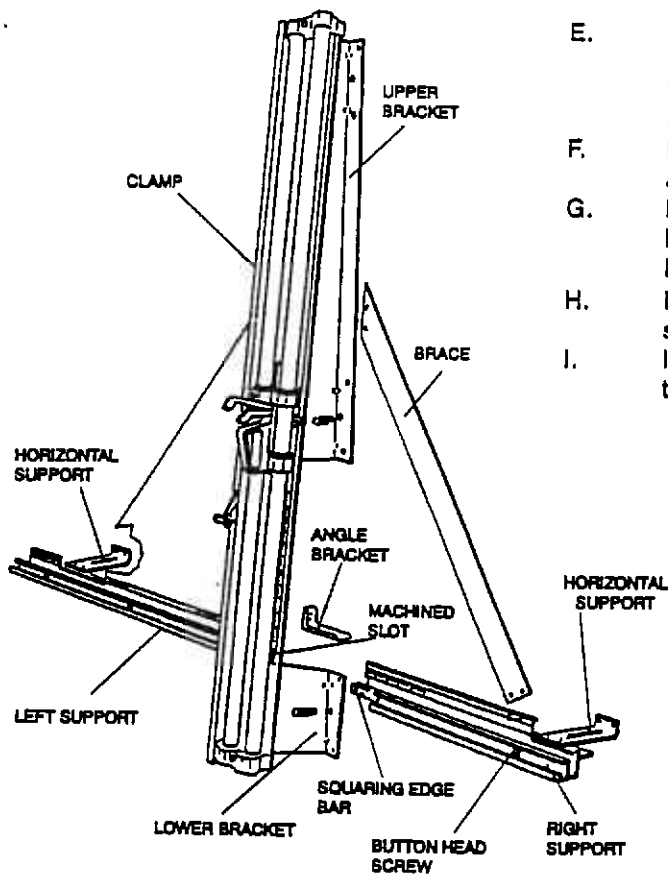

Figure 9
2. Use two 1/4-20 bolts, nuts, washers, and lock washers shown at B to attach the **LOWER BRACKET** to the machine. See **Figure 9**.
5. Install the **HORIZONTAL SUPPORT**  between the **LEFT SUPPORT** and the wall. See **Figure 9**. Use two 10-24 pan head bolts and nuts, shown at C and two hex head wood screws, A.
6. Refer to **Figure 9** to install the **RIGHT SUPPORT** assembly.